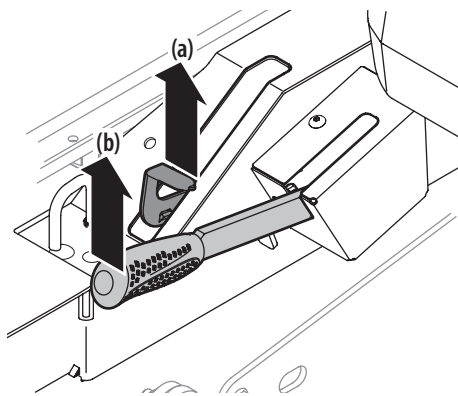

Figure 2
4. Engage the transmission bypass valves by pulling the bypass lever (a) outward then upward and all the way back. See Figure 2.
6. To release the bypass lever (a), push the lever forward. See Figure 2.
7. To engage the parking brake, pull back completely on the parking brake lever (b). See Figure 2.